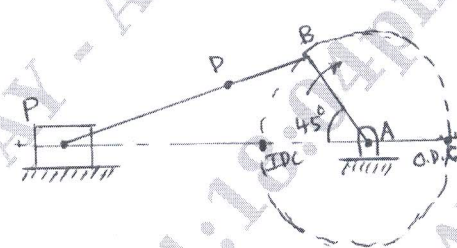

Fig. Q3
- 3 An I.C engine mechanism as shown in Fig. Q3 in which crank AB rotates at 600 rpm. The length of the crank AB is 0.5 m and connecting rod is 2 m long. When the crank is turned 45° from inner dead centre (I.D.C) find (i) Velocity of piston P. (ii) Angular velocity of connecting rod BP. (iii) Velocity of point D on the connecting rod which is at a distance of 0.5 m from B. (iv) Acceleration of point D and angular acceleration of connecting rod. (16 Marks)